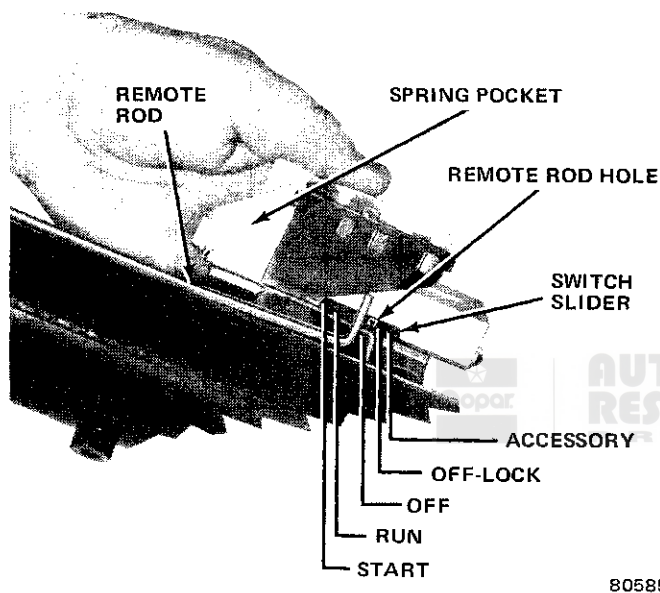

Fig. 2J-64 Ignition Switch Installation
(a) Move switch slider to Accessory position then back two clicks to Off-Unlock position. Remote rod hole in slider should be almost at center (fig. 2J-64).
(39) Install neutral safety switch at base of column if equipped.
(40) Position switch harness protectors, if equipped, over harness and snap protectors into place on column.
(41) Install lock plate cover.
(42) Install steering wheel. Tighten steering wheel nut to 30 foot-pounds (41 N•m) torque.
**CAUTION:** Some steering shafts have metric size steering wheel nut threads. Identify the shaft nut thread type before installing a replacement nut. Metric shafts have an identifying groove in the steering wheel locating splines (fig. 2J-2). American thread shafts do not have this groove.
(43) Remove column support fixture and install column mounting bracket. Tighten bracket attaching bolts to 20 foot-pounds (27 N•m) torque.
(44) Install column if removed. Refer to Steering Column Installation.